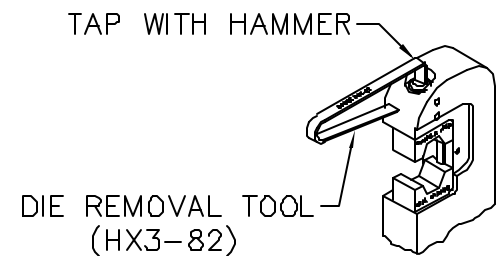

FIG. 2
1. With the crimp tool handle open, place die removal tool against end of knockout pin and tap gently with small hammer (See Figure 2). The die will be released from the front die holder. It can now be removed by hand.